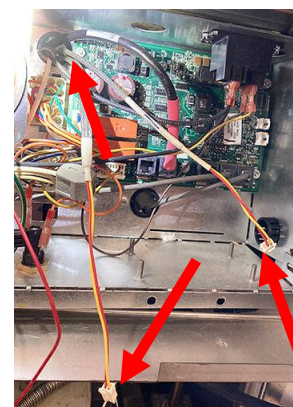

Figure 67
67. Insert temperature probe and ATO probe harnesses into the rear of the component box as shown (see Figure 67).